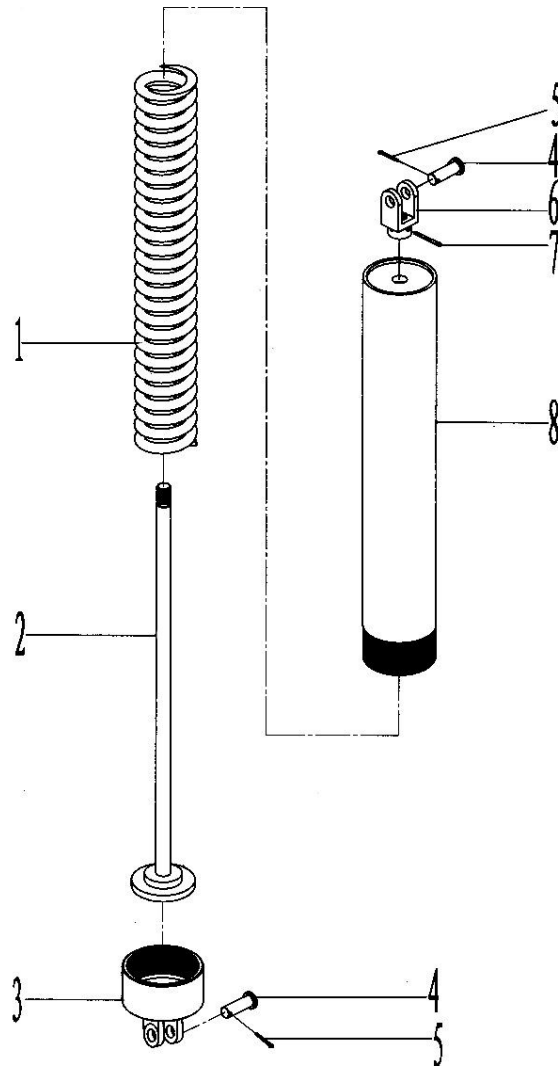

Fig.32
14. Spring lift bucket assembly (Fig32, Table29)
- Spring lift bucket assembly (Fig32, Table29)